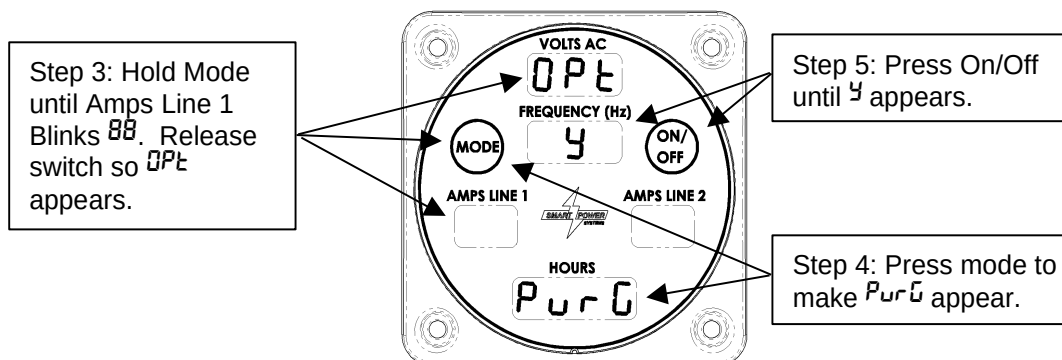

Figure 10 – Enabling Purge Mode
The system controller has been designed to provide a purge option. With this option applied, the generator will turn at a reduced speed to minimize wear to the system's hydraulic components while purging air from the system. The generator is shipped from the factory with the purge option enabled. See Figure 10, below, for instruction on manually enabling purge mode.
3. Otherwise, press and hold the Mode switch until the Amps Line 1 field begins blinking 88 (more than 10 seconds). Release the switch so 0P1 appears. Reference Figure 10.